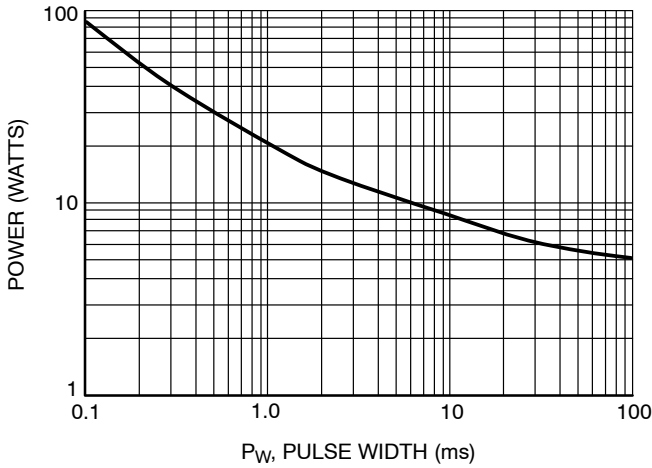

Figure 12. Maximum Non-repetitive Surge Power vs. Pulse Width
3. For different square pulse durations, see Figure 12.